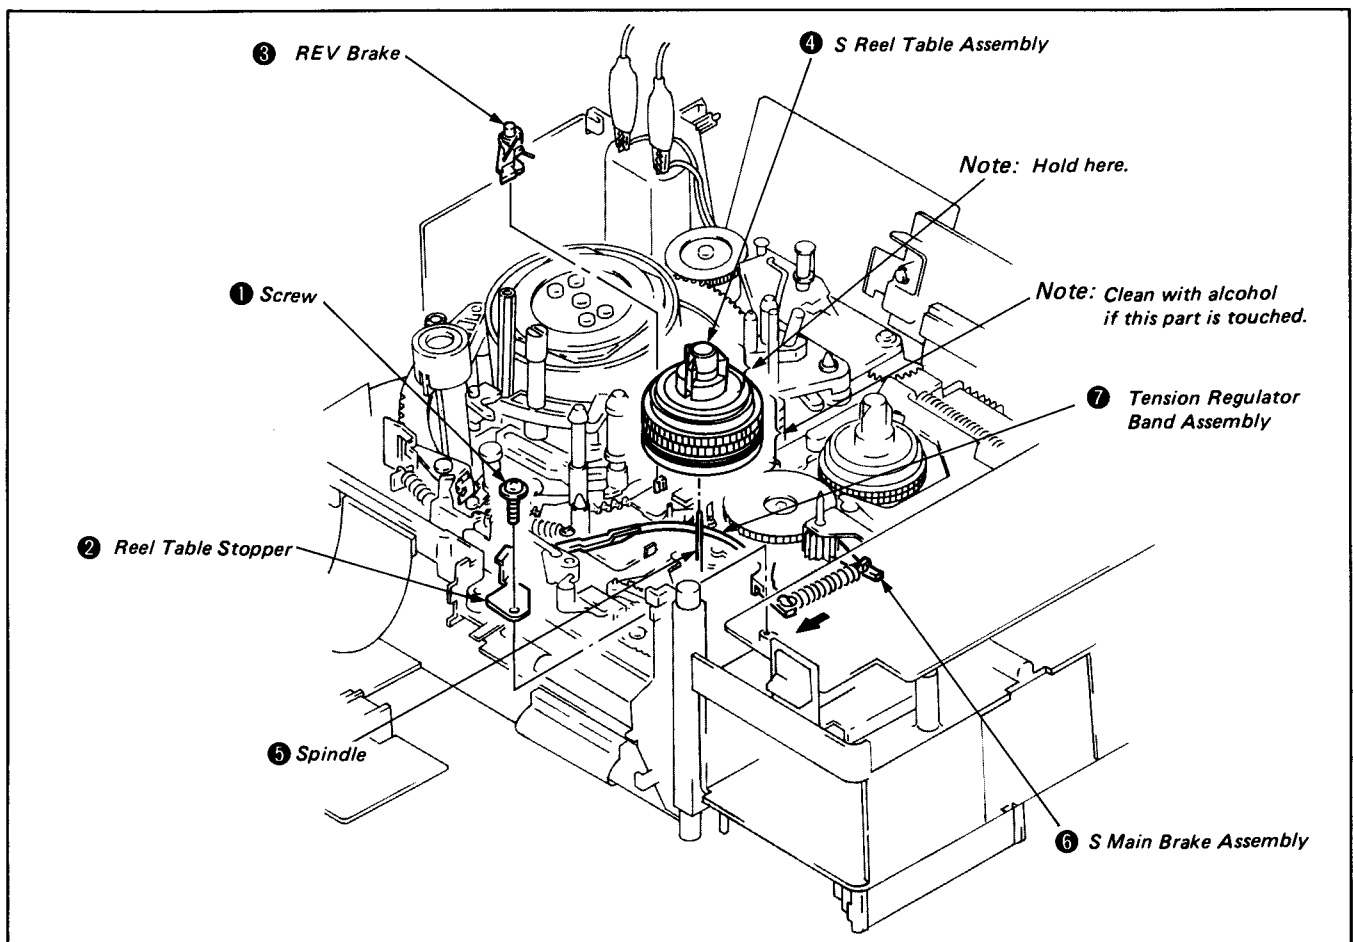

Fig. 8-7.
- 3) Remove the screw ❶ and reel table stopper ❷.
- 4) Remove the REV brake ❸.
- 5) Remove the S reel table assembly ❹. (See Fig. 8-7.)
Note: Be sure to hold the upper click part in hand when removing. (See the Note in Fig. 8-7.)
Note: Be sure to hold the upper click part in hand when mounting. (See the Note in Fig. 8-7.)
- 4) Remount the REV brake ❸.
- 5) Remount the reel table stopper ❷ and tighten the screw ❶. (See Fig. 8-7.)